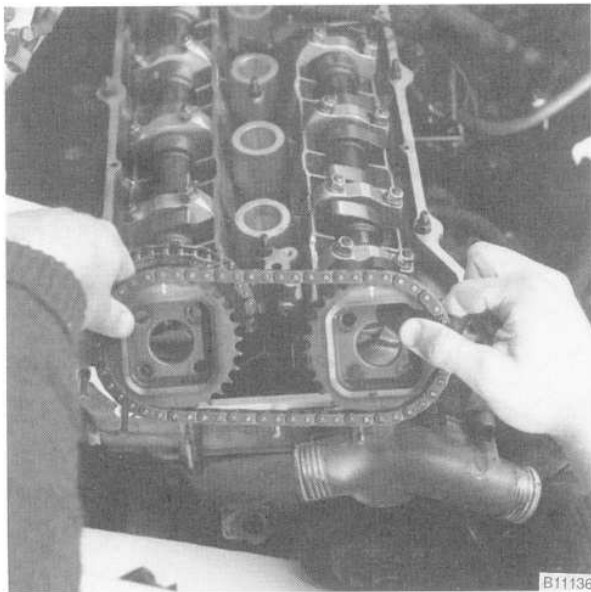

Fig. 20. Secondary chain sprockets and chain being installed on non-VANOS engine. Attach sprockets with arrows pointing up and elongated holes centered.
8. Install as an assembly, the secondary chain sprockets and chain so that the arrow(s) on the sprocket(s) are pointing up. Center the mounting holes in the sprockets to the bolt holes in the camshafts. See Fig. 20. On 1993 and later cars, install the thrust washers. Tighten all mounting bolts and/or nuts finger tight only.